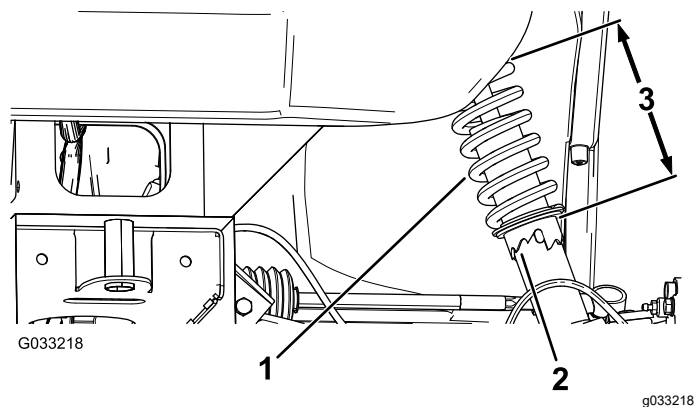

Figure 57
2. If the wheel camber is out of alignment, use the spanner wrench to rotate the collar on the shock absorber to align the wheel (Figure 57).